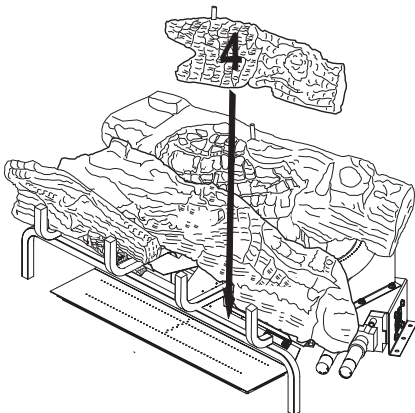

Figure 40 - Installing Log # 4
3. Place the front right log (#4) onto the base assembly between the middle log (#2) and the grate. The back of the front right log (#4) will rest against the front of the middle log (#2). The notch in the end of the front right log (#4) will fit around the grate bar. See Figure 40, page 22.